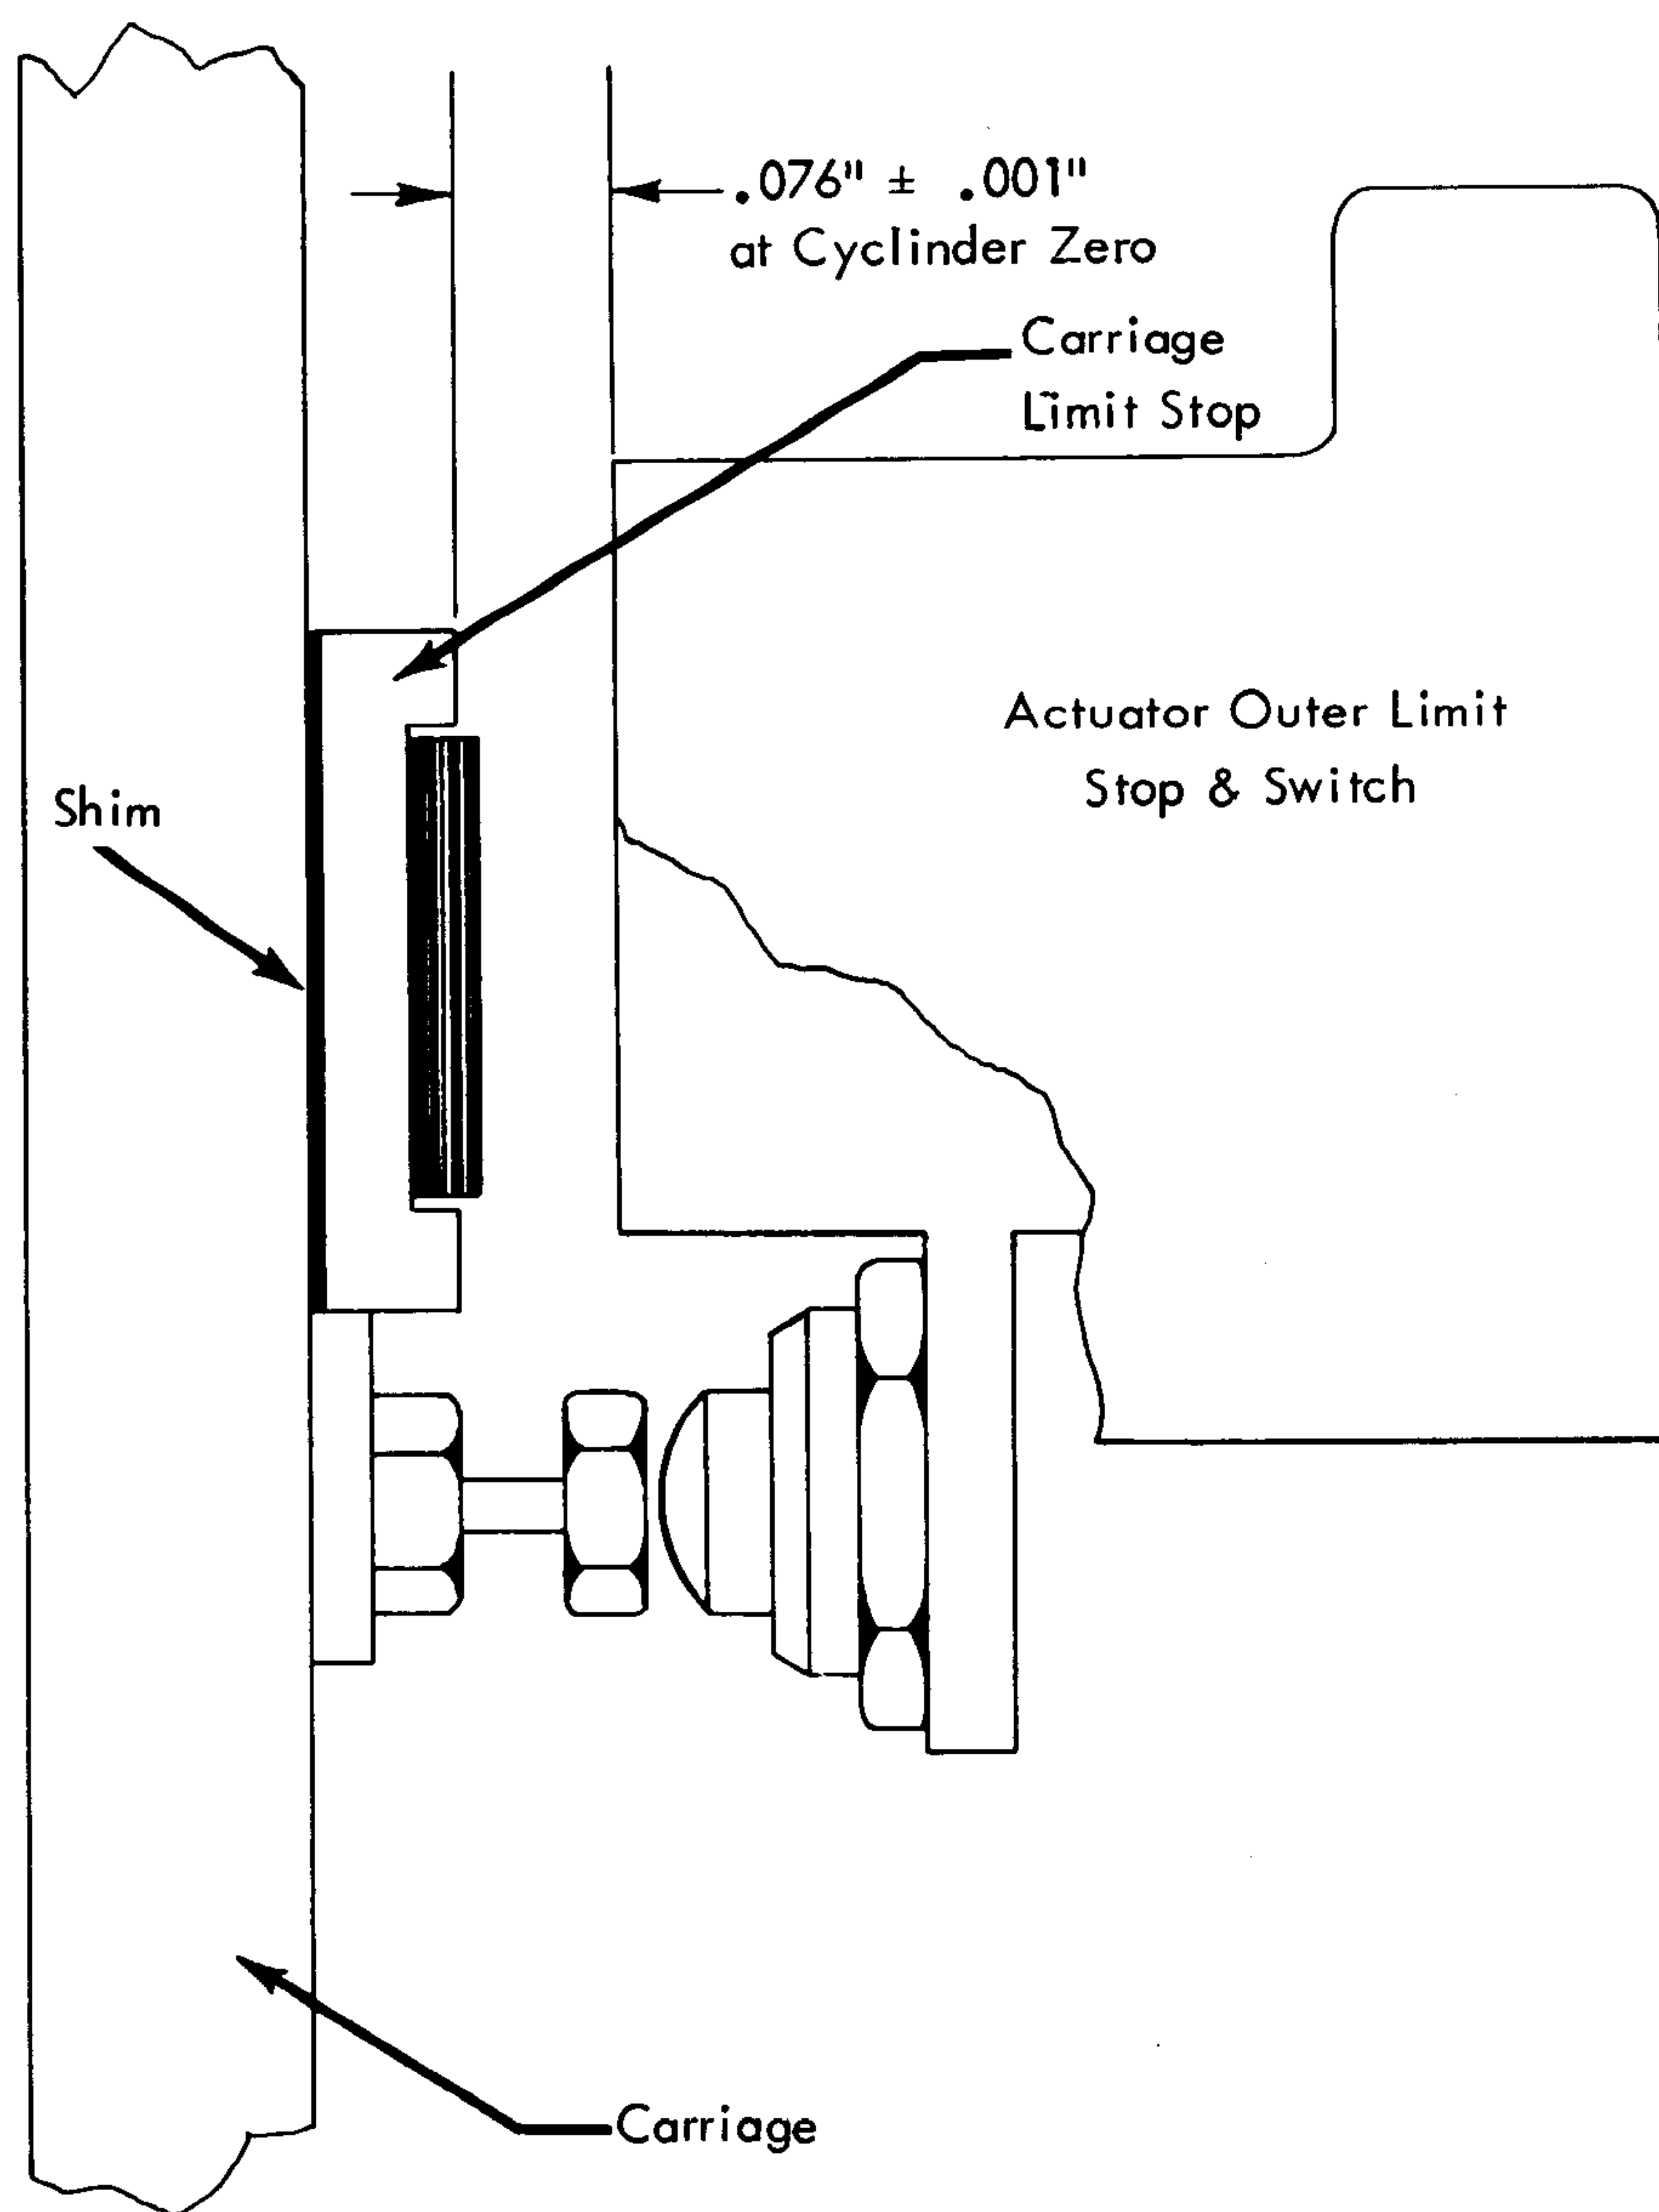

Figure 2-40. Carriage Outer Limit Stop Adjustment
Removal (Figure 2-40)
3. Place a .076" shim between carriage limit stop and actuator outer limit stop (see Figure 2-40).
1. Detent output shaft at cylinder 0. Measure and record space between actuator outer limit stop and carriage limit stop (see Figure 2-40).